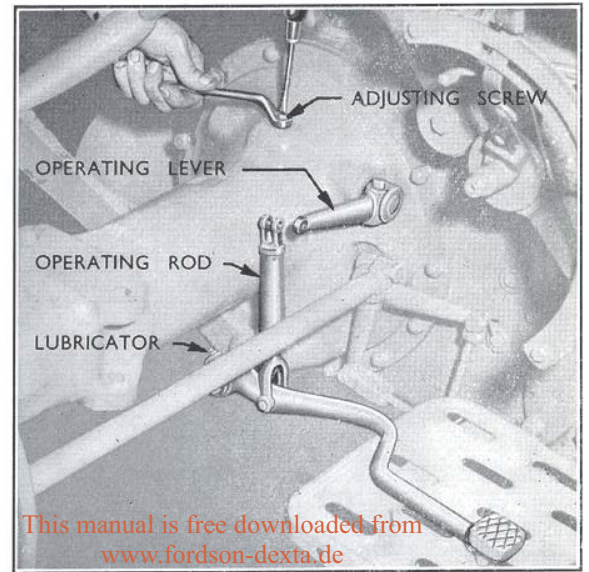

Fig. 3
2. Slacken off the locknut and screw down the adjusting screw until it contacts the bottom of the slot in the operating fork (see Fig. 3). The point of contact is determined by observing the operating lever which will begin to move immediately the screw reaches the bottom of the slot.